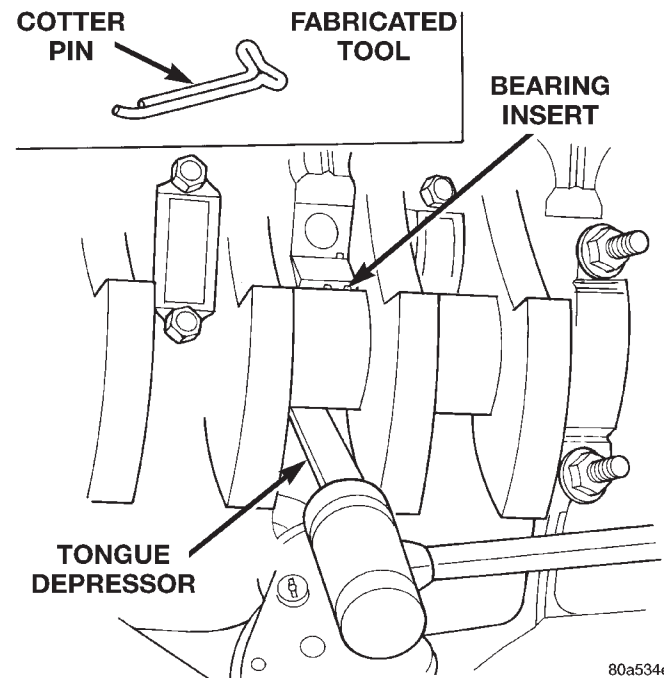

Fig. 50 Removing Upper Inserts
- (7) Remove the lower insert from the bearing cap.
- (8) Remove the upper insert by **LOOSENING (DO NOT REMOVE)** all of the other bearing caps. Now insert a small cotter pin tool in the crankshaft journal oil hole. Bend the cotter pin as illustrated to fabricate the tool (Fig. 50). With the cotter pin tool in place, rotate the crankshaft so that the upper bearing insert will rotate in the direction of its locking tab. Because there is no hole in the No.3 main journal, use a tongue depressor or similar soft-faced tool to remove the bearing insert (Fig. 50). After moving the insert approximately 25 mm (1 inch), it can be removed by applying pressure under the tab.
- (9) Using the same procedure described above, remove the remaining bearing inserts one at a time for inspection.